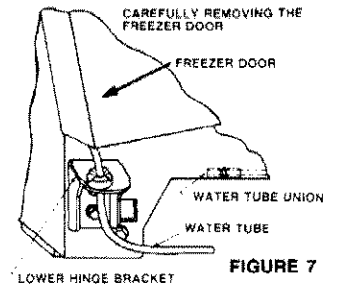

FIGURE 7
9. The freezer door water line will thread through the bottom hinge, lift the door off carefully (see Figure 7).